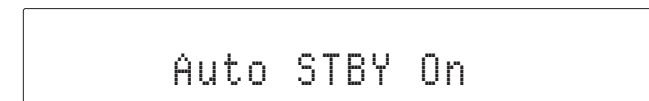

Figure 45
3. To re-activate the Auto Off Feature, press and hold in the  Power Push-button on the Remote Control for about 5-10 seconds, at which time the Front Panel Display indicates "Auto STBY On". Refer to figure 45.